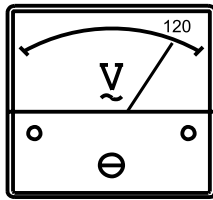

Figure 44. Voltmeter
9. The generator's AC-voltmeter (Figure 44) will display the generator's output in **VOLTS**. If the voltage is not within the specified tolerance.